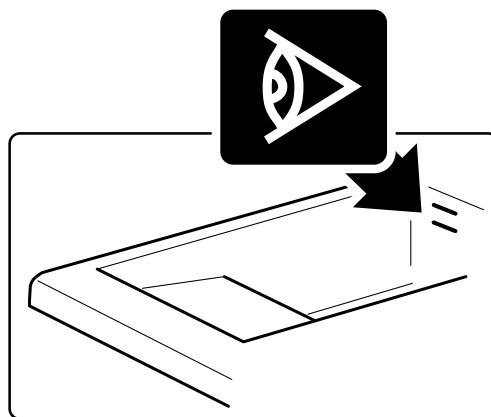

Fig. 5 Tank maximum/minimum filling level
- Always ensure that the oil level is between the **maximum** and the **minimum level** (indicated by the relief marks on the inside of the tank, see *Fig. 5 Tank maximum/minimum filling level*);
Always ensure that the oil level is between the maximum and the minimum level indicated by the relief marks on the inside of the tank (See Fig. 5 Tank maximum/minimum filling level);